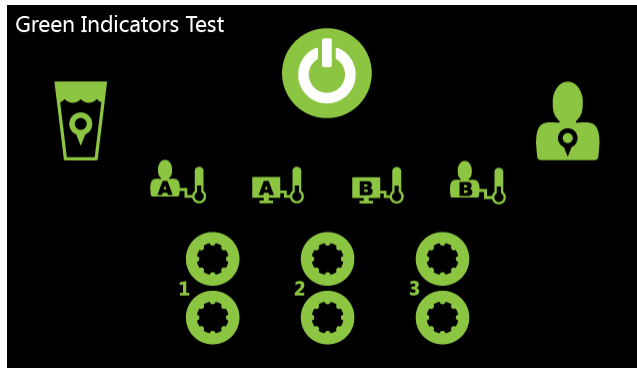
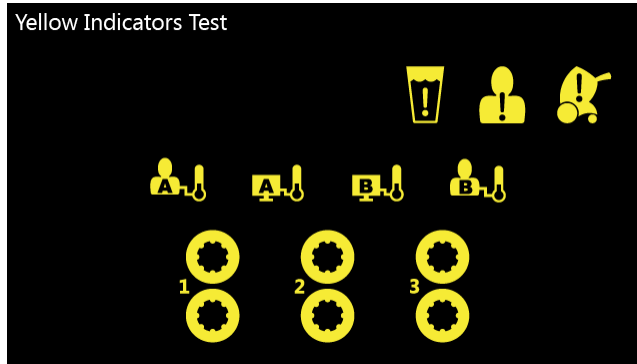
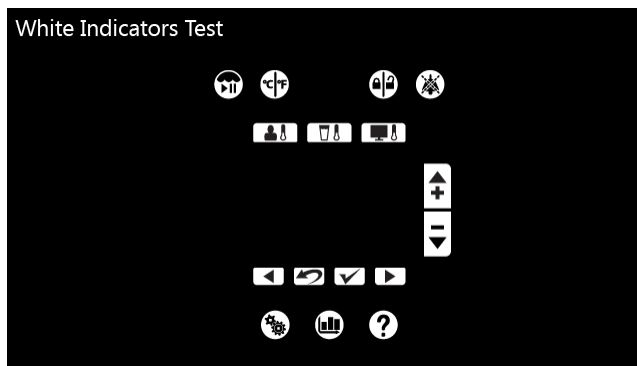

Figure 51 – Green indicator test
Figure 52 – Yellow indicator test
Figure 53 – White indicator test
- b. Verify the green, yellow, and white indicators illuminate, mirroring the display. (See Figure 51, Figure 52, and Figure 53).